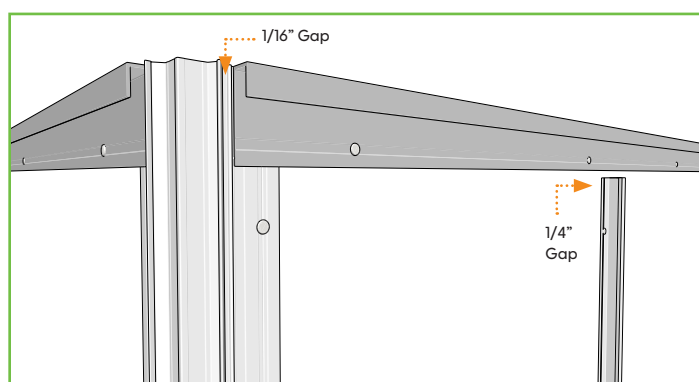

Figure 17.1
7. At the top of the wall use a one piece or two piece J. At the ends of the horizontal J overlap the vertical trims nailing flange with a 1/16" gap from the EZ.Bump®. Keep any midfield vertical back plates away from the horizontals J trims nailing flange by 1/4". (Figure 17.1).